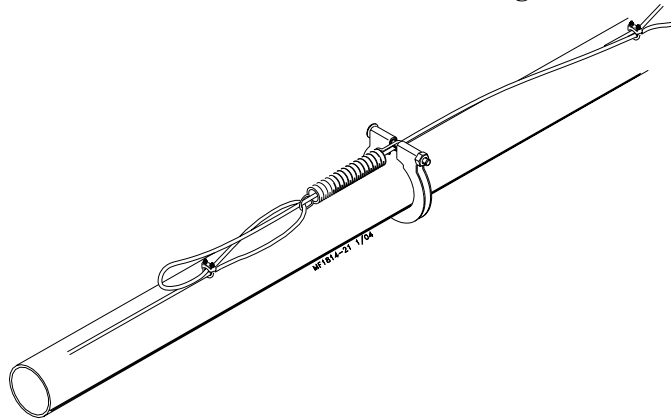

Figure 41. Hopper End Spring Installation
6. There is not enough room between the feed hopper and the first feeder pan to attach and stretch the spring. Install the spring in between the first and second pan after the hopper. Then route the cable back to the first pan and attach to the feed tube cable assemblies, see **figure 41**.